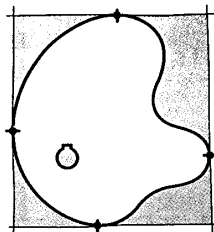

FIGURE 2.38 ■ Step 1, box the object.
- Step 1. Place the object in a lightly constructed box. (See Figure 2.38.)